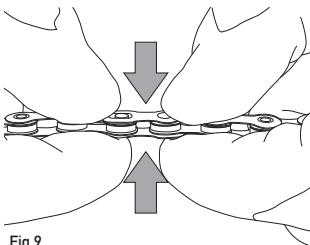

Fig.9
- Press the C-Link™ to make sure that the pins are fully inserted (Fig. 9).